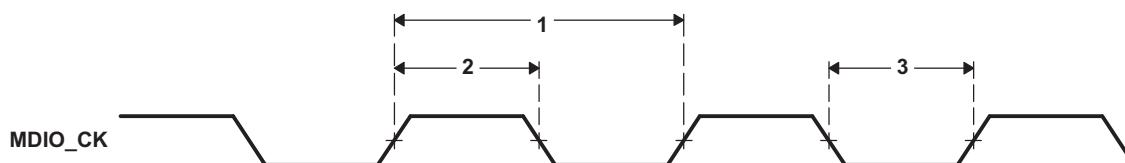

**Figure 5-40. MII Serial Management Timing**
**Table 5-63. Switching Characteristics for MDIO\_CK (see Figure 5-40)**